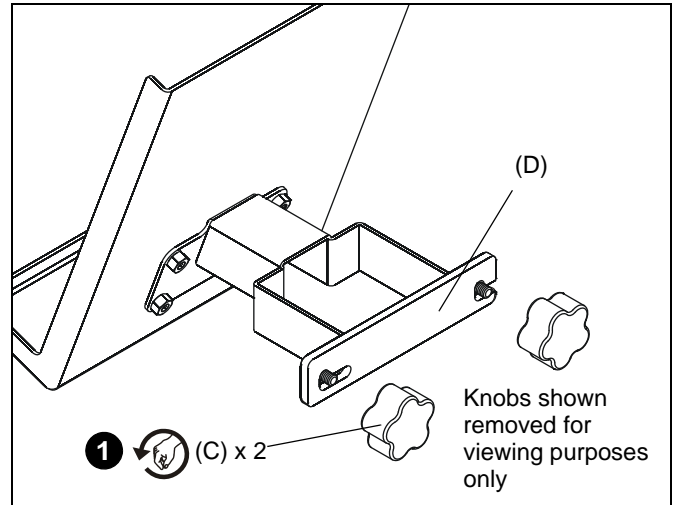

Figure 3
1. Loosen back bracket (D) by turning both knobs counterclockwise. Do NOT remove knobs. (See Figure 3)